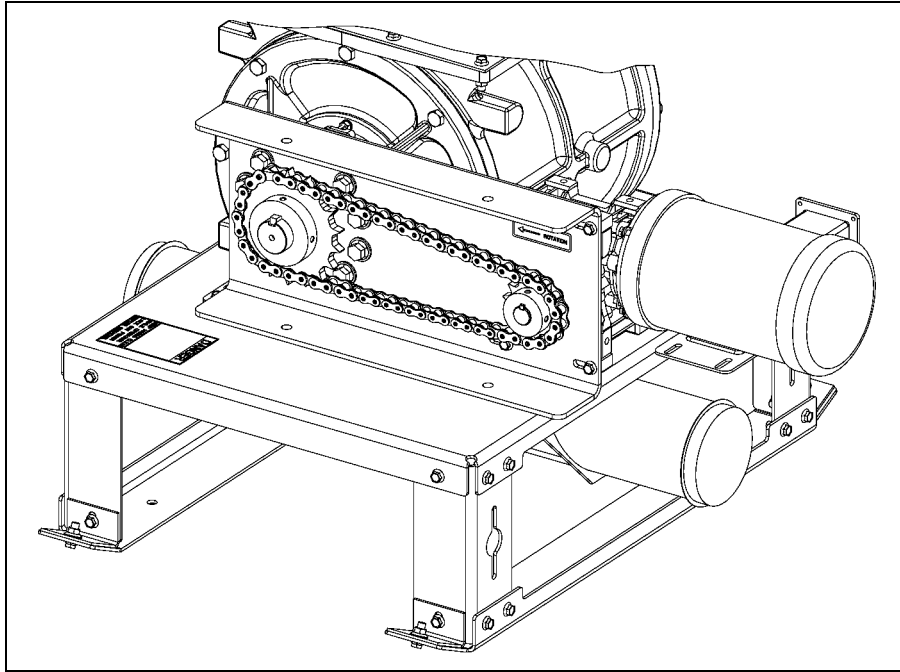

Figure 7J
- Next, install the chain on to the sprockets and apply tension by sliding the gearbox to the right. Tighten the four (4) 3/8" flange bolts on the two (2) drive mount bars. *(See Figure 7J.)*